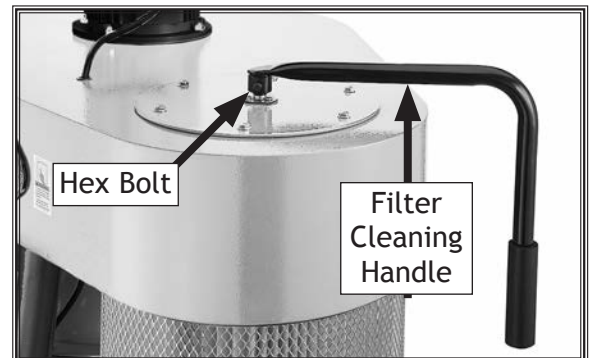

Figure 61. Filter cleaning handle hex bolt.
3. Loosen M6-1 x 16 hex bolt on filter cleaning handle, then remove handle (see Figure 61).